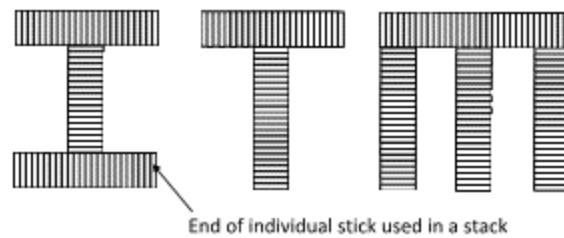
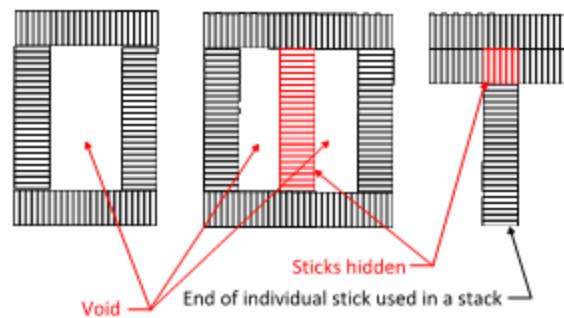

Figure 3.3: End View of Acceptably Combined Sticks
Figure 3.4: End View of Unacceptably Combined Sticks
- a. At least one entire side of the longest dimension (typically the edge or face) of each Popsicle stick used must be visible for judging. **Figure 3.3** illustrates appropriate ways to combine sticks; these examples demonstrate that the longest dimension of each stick used, in each stack, is visually accessible. **Figure 3.4** illustrates inappropriate ways to combine sticks; these examples demonstrate that the longest dimension of each stick used, in each stack, is not accessible visually because some edges or faces are in a void.